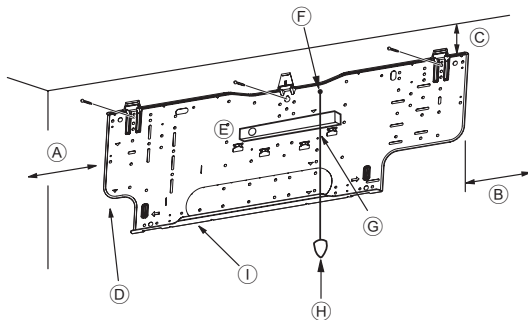
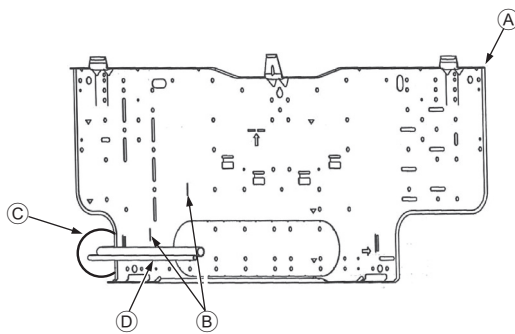

Fig. 3-4
Fig. 3-5
■ PKFY-P-NHMu-E2 (Fig. 3-4)
- Ⓓ Fixing screws (4 × 35 mm, 1-3/8 inch) ②
- Ⓘ Mount board ①
3.3. When embedding pipes into the wall (Fig. 3-5)
- Ⓐ Mount board ①